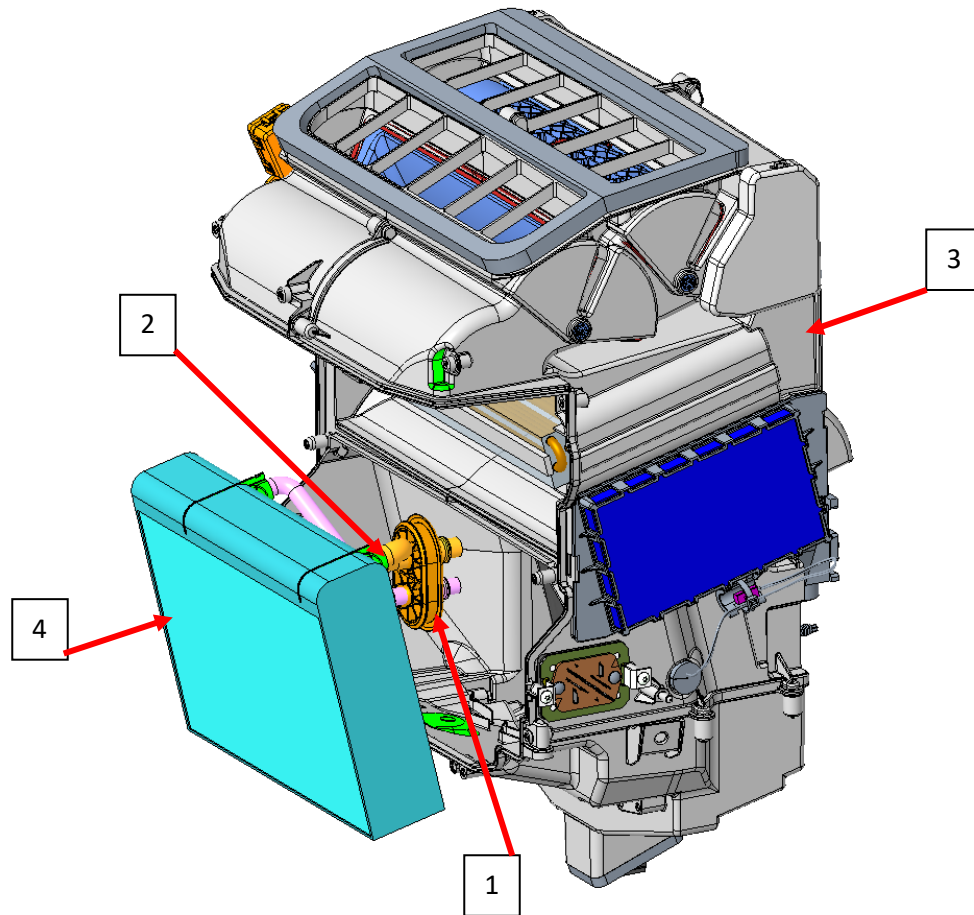

Figure 19: Evaporator
1. Install grommet onto evaporator tubes (figure 19, items 1 and 2).